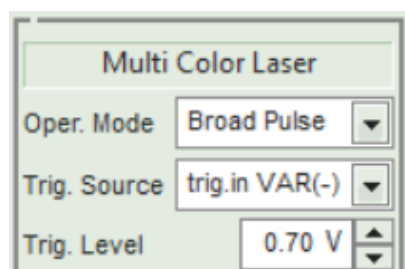

Figure 17: Additional control elements for external triggering in both narrow and broad pulsed mode
- The option **trig.in VAR(-)** will trigger upon the falling edge of an electrical pulse, while **trig.in VAR(+)** does the same on the rising edge of such a signal. Both of these options will also spawn an additional spin edit box called **Trig. Level**, where the threshold of the trigger signal can be set in V between -1 V to +1 V (see Fig. 17).